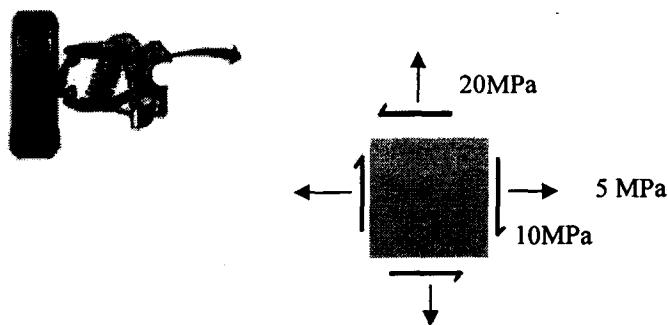

Figure 8 / Rajah 8
- [b] At point A on the front suspension of an automobile, the stresses σ_x , σ_y and τ_{xy} have the values as shown on Figure 8.